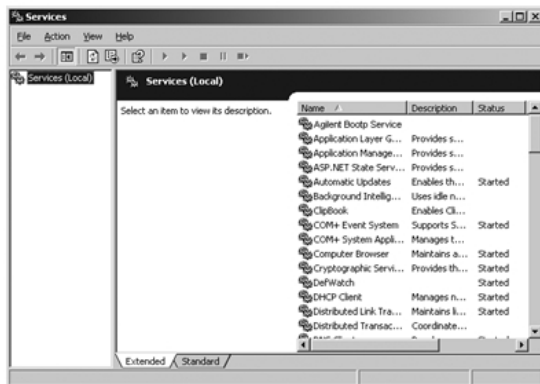

Figure 44 Windows Services screen
- 1 In the Windows control panel, select **Administrative Tools > Services**. The **Services** screen appears, see Figure 44 on page 264.